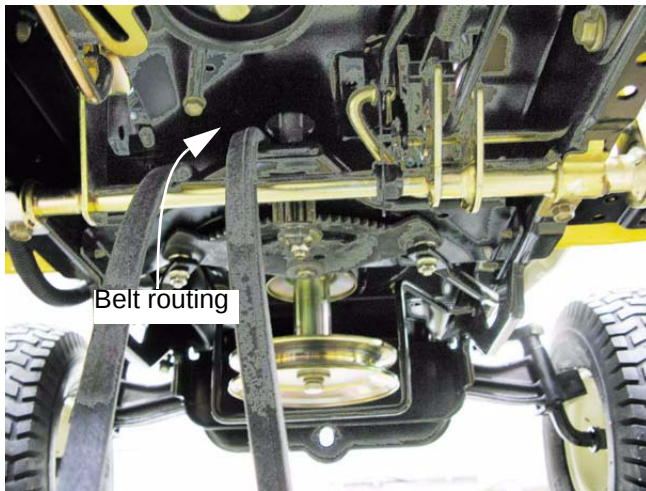

Figure 6.73
- The belt is routed to the left of the steering shaft, and the fore-most keeper pin goes between the runs of the belt. See Figure 6.73.